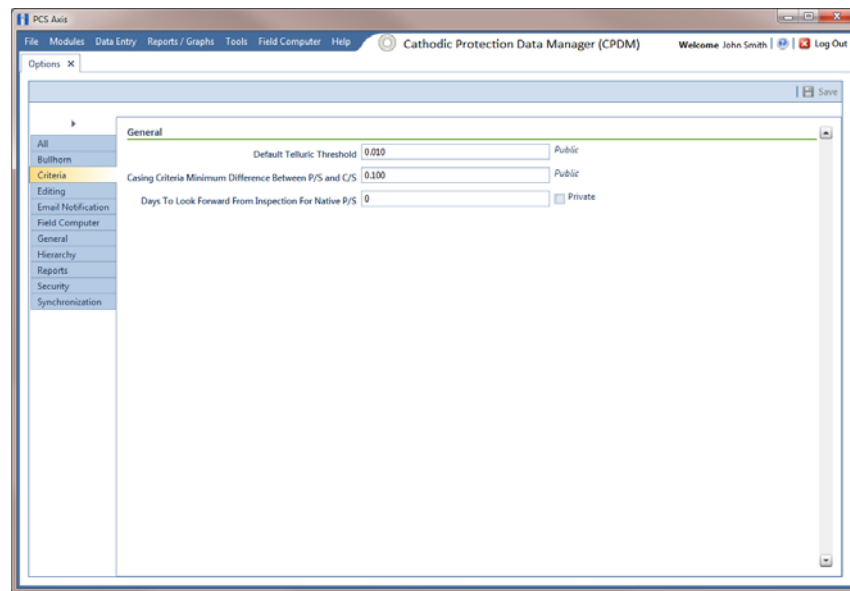

Figure 3-7. Criteria Options
- 1 If the *Options* window is not open, click **Tools > Options** to open the window. Then click the **Criteria** tab to open the *Criteria* options page (Figure 3-7 (page 38)).